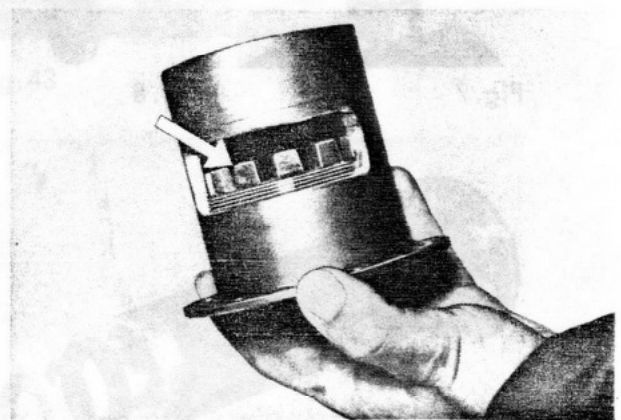

Fig.2
1. Screw castellated (adjusting) nut a few turns into the housing (Fig. 2).